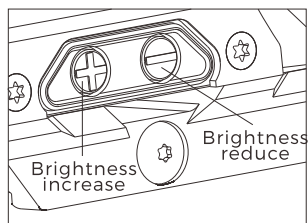

Fig 6
1. Switch on (see Fig6): Press and release either brightness button ("+" or "-") to turn on the sight.